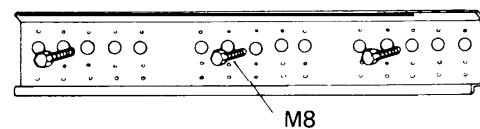
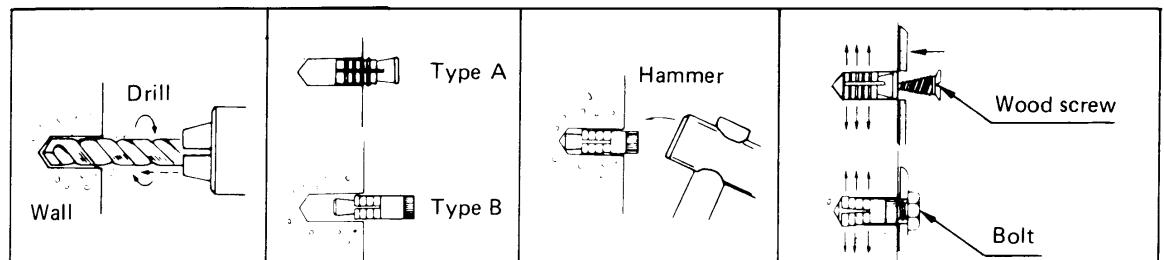

Fig. 10
Fig. 11
- Mount the wall fixture to match the holes shown on the Full-Scale Diagram Panel. Fig. 10 and Fig. 11